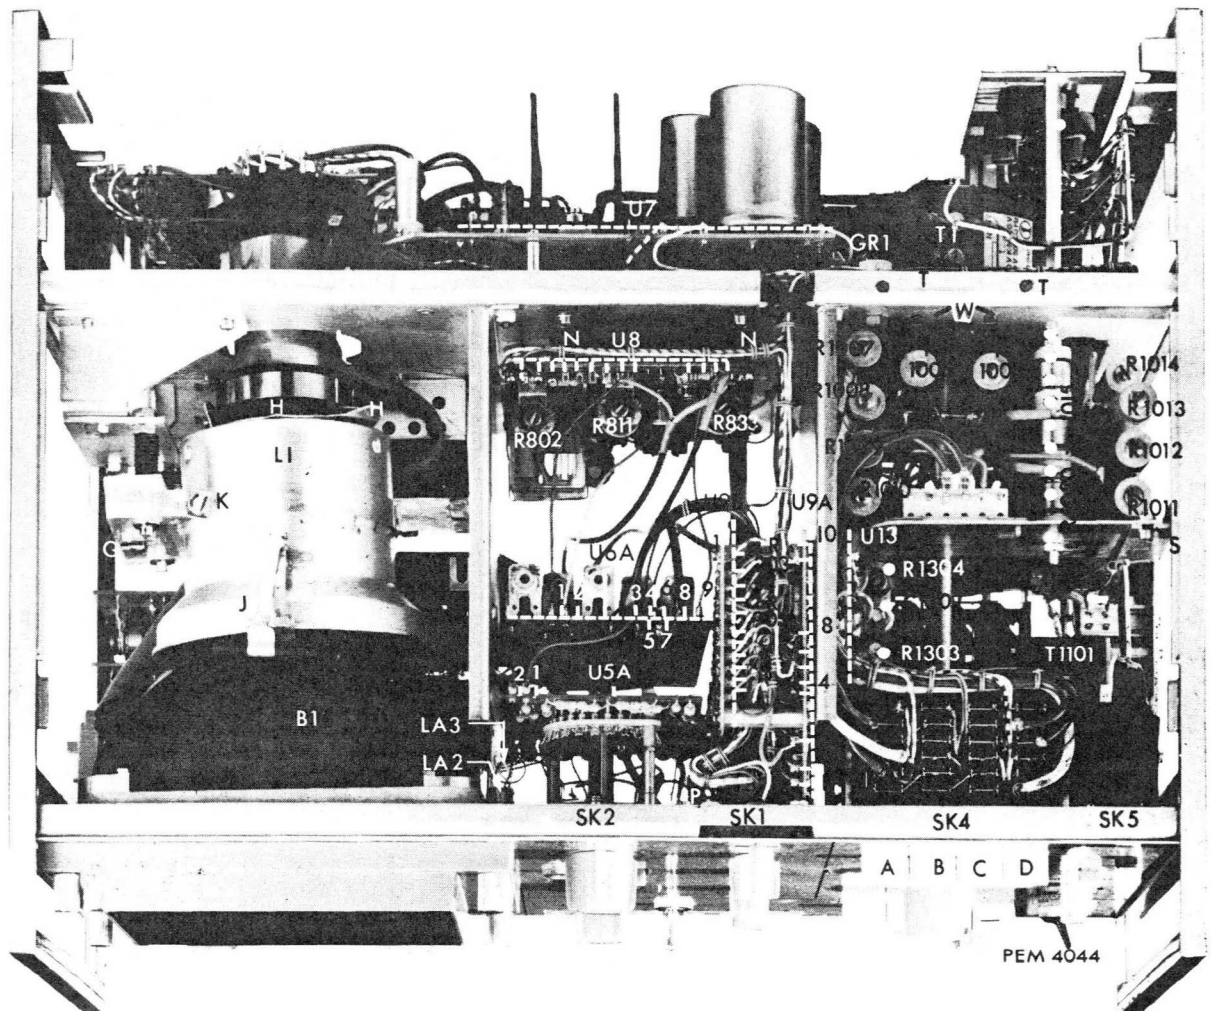
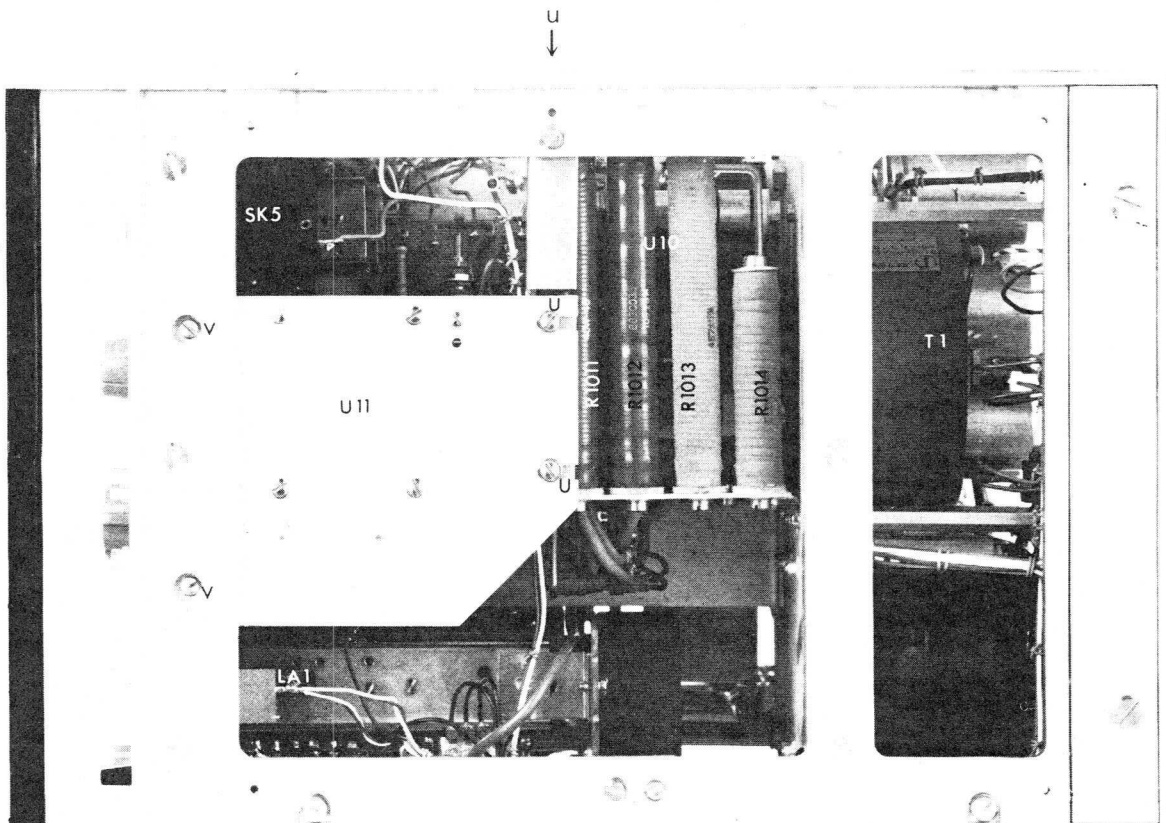

Fig. 63. Top view
Fig. 71. Side view right
- Remove screw K (Fig. 63).
Remove the rear panel. Remove 2 screws N (Fig. 63) and loosen 2 screws O. Unsolder the connection wires. When the unit is slightly pushed down, the screws can be removed from the bayonet holes.
Remove the top plate, and then remove unit U5. Remove the knobs, the fixing nuts of SK3, SK8 and R902 as well as the knurled nut of SK6. Remove screw P (Fig. 63) and loosen screw Q (Fig. 71). Unsolder the wires, slide the unit backwards and take it out.
Remove the bottom plate, the top plate and the rear panel. Loosen fixing nut R (Fig. 73) and pull out the spindle and knob of T1. Loosen the spindle coupling of SK12 (accessible from the top) and pull out the spindle. Remove the two screws T (Fig. 63) at the base plate of U10 and loosen screws S (Fig. 63). Unsolder the connection wires and lift out the units.
Remove three screws U (Fig. 71) as well as screws S (Fig. 63) and take out the angle support.
Remove the two screws V (Fig. 71) the EHT unit can now be taken out.
Remove the top-panel, the cover-plate of the mains-fuses and loosen the mounting plate which has been fitted with the three screws. Remove screws Y (Fig. 63). Loosen tightening nut R (Fig. 73) and pull out the spindle of T1. Unsolder the connection wires of T1. Loosen the two hexagon screws W (Fig. 63) by means of a spanner (7 mm). The transformer can now
Remove the right-hand side panel (Fig. 71). Pull out the lamp holder in backward direction.